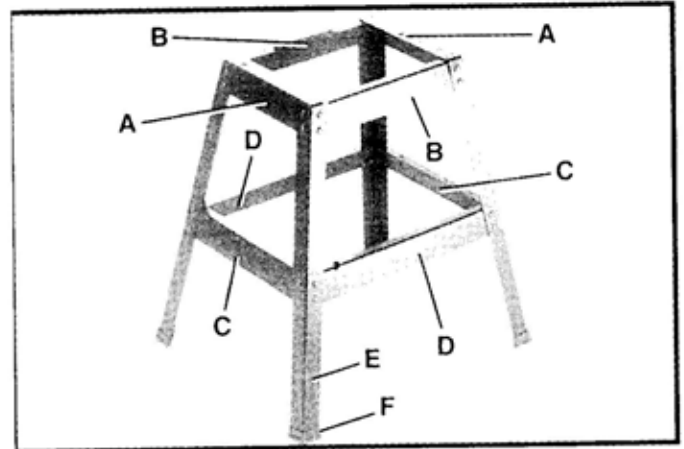

Fig. 5
1. Assemble two 11-3/4" long top end braces (A) Fig. 5, two 15-3/4" long top side braces (B), two 16-1/2" long lower end braces (C), and two 20-1/2" long side braces (D) to four legs (E) as shown, using the thirty-two 1/2" long carriage bolts, flat washers, and hex nuts. Only tighten hex nuts fingertight at this time. **IMPORTANT:** The top lips of two upper end braces (A) must fit on top of the top lips of two upper side braces (B).
2. Assemble four rubber feet (F) Fig. 5, to the bottom of each leg (E) as shown.